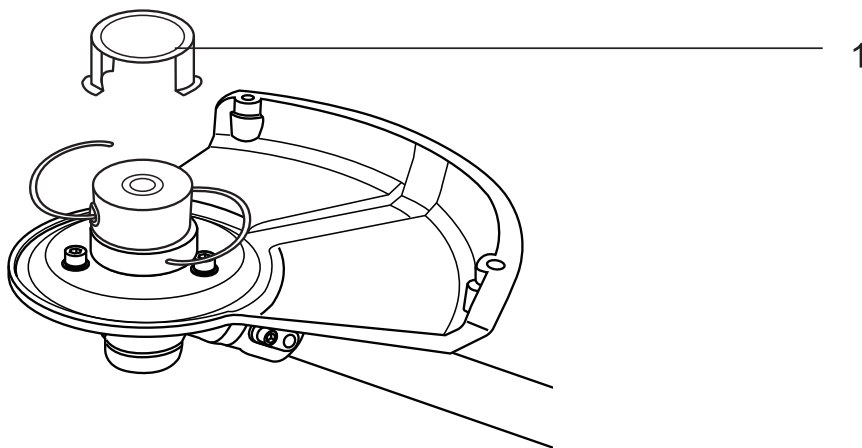

Fig. 22
1. Take off the cover of the trimming head (Fig. 22).